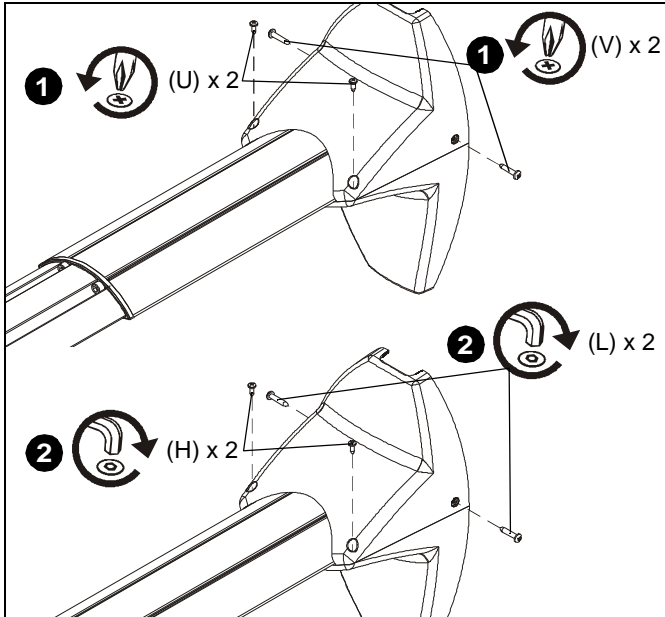

Figure 22
1. Remove two #8 x 1/2" Phillips screws (U) and two #10 x 1" Phillips screws (V) from top and lower covers. (See Figure 22)
2. Install two 8-32 x 1/2" buttonhead security screws (H) and two 10-24 x 1" buttonhead security screws (L) into top and lower covers. (See Figure 22)